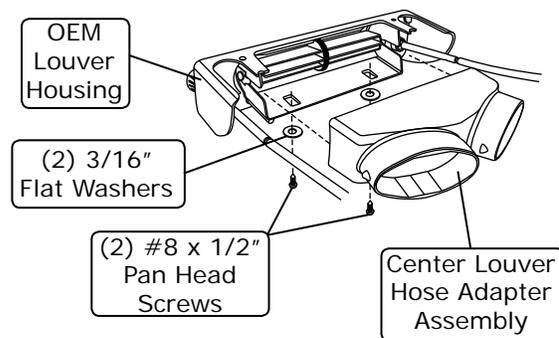

Figure 13a
3. Install the center louver hose adapter onto the OEM center louver housing using (2) #8 x 1/2" pan head screws and (2) 3/16" washers as shown in Figure 13a, below.